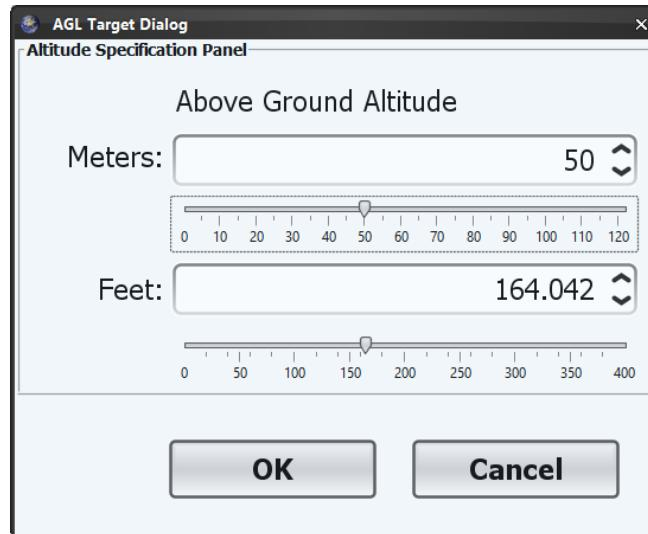

Figure 29 – Specific altitude input dialog
7. To go to an exact altitude in meters or feet, click the AGL button to show the dialog shown Figure 29.